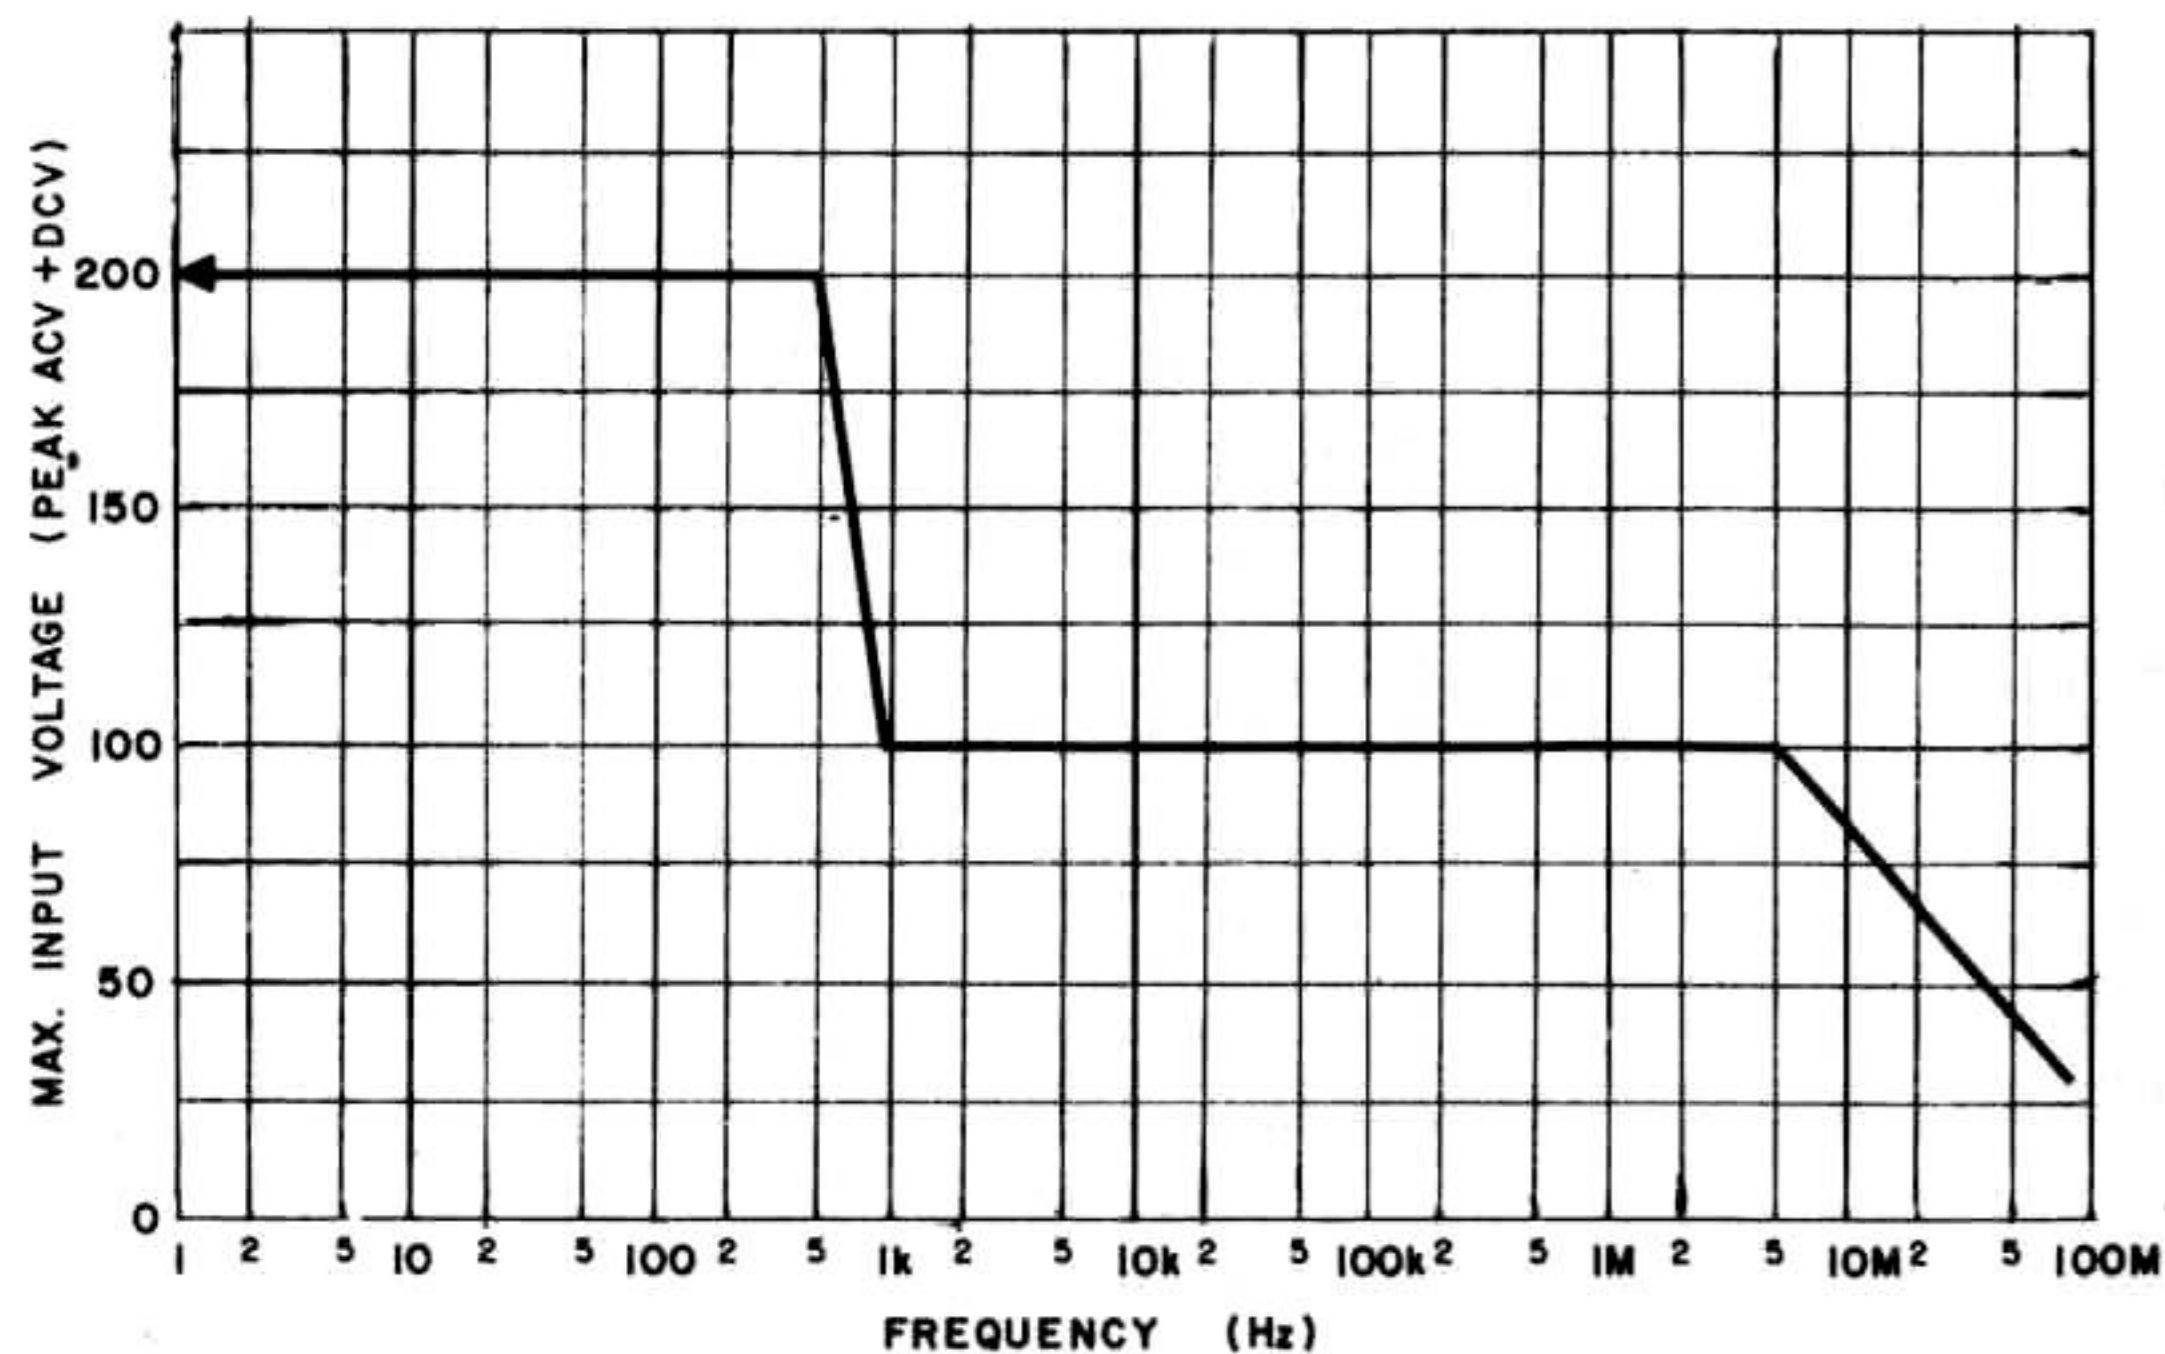

Fig. 2 Maximum Input Voltage Derating Curve
The rear panel inputs respond to TTL logic levels. The maximum input voltage at these inputs is 5 V peak. The maximum input for the front panel connector is given in the specifications and graphically in Fig. 2. Do not exceed the maximum voltage rating for any input. See CAUTION in the OPERATING INSTRUCTIONS section of this manual.
Maximum Input	200 V (peak AC + DC) to 500 Hz, derate linearly to 100 V (peak AC + DC) at 1 kHz. 100 V (peak AC + DC) from 1 kHz to 5 MHz, derate linearly to 30 V (peak AC + DC) at 80 MHz. See Fig. 2.
2. **ATTENUATOR.** In the X1 position the input is applied to the counter circuitry without attenuation. In the X10 position a X10 attenuator is inserted in the signal path. Trigger uncertainty or miscounting due to noisy or improperly terminated signals can be reduced using the X10 attenuator. This will work only for high level signals however, since the signal level is also attenuated. The attenuator switch setting has no effect on the maximum input level that can be applied. Do not exceed the levels given by Fig. 2.